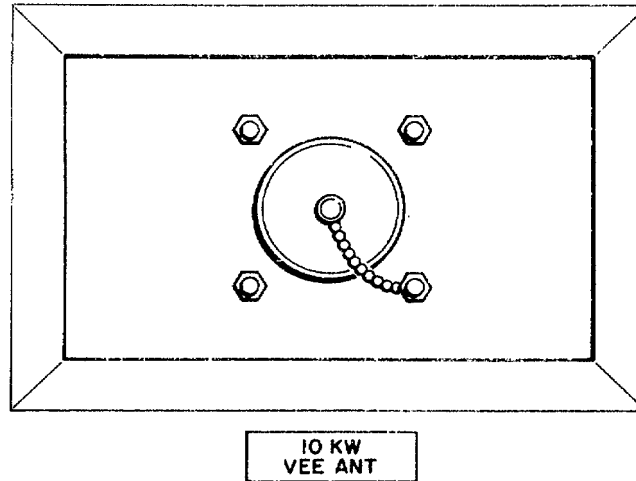

Figure 2-11 10-kw P.A. entry panel.
- (5) Route the 10-kw coaxial cable to the left side (roadside) of the equipment shelter. Connect the end of the 10-kw coaxial cable to the right angle adapter attached to connector marked 10 kW VEE ANT on the 10-kw entry panel (fig. 2-11).